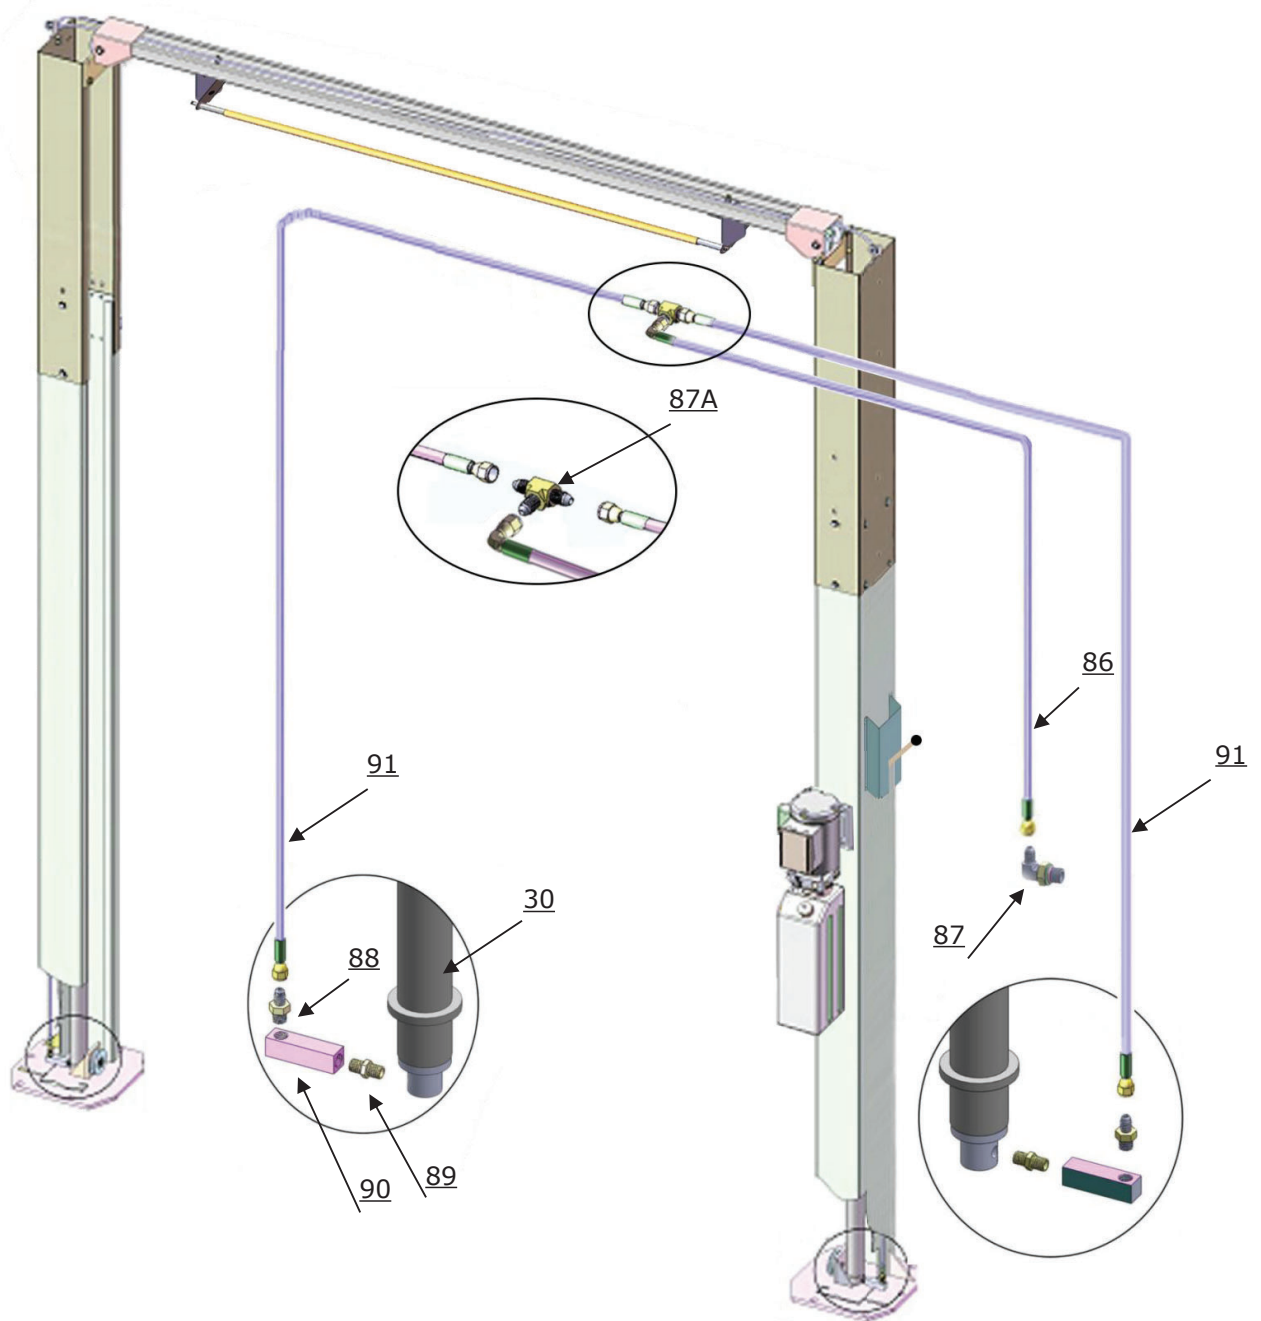

Fig.29
1. Oil-line connecting drawing. (See Fig.29)